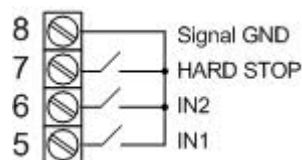

Fig. 3. External control elements connection
2. Connect external control elements according to the connection diagram schemes in fig. 3: